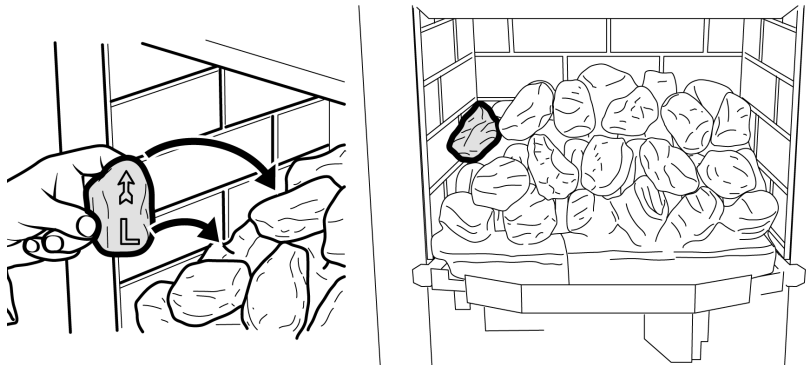

Figure 17. Second row "Coal L"
21. Hold coal 'L' upright with the arrow pointing to the top. Locate coal 'L' as shown in figure 17